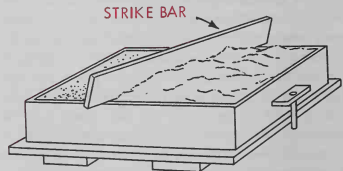

Fig. 9-7. Striking off excess sand with the strike bar.
6. Strike off the excess sand on the top of the mold with a strike bar, Fig. 9-7. Sprinkle a handful of